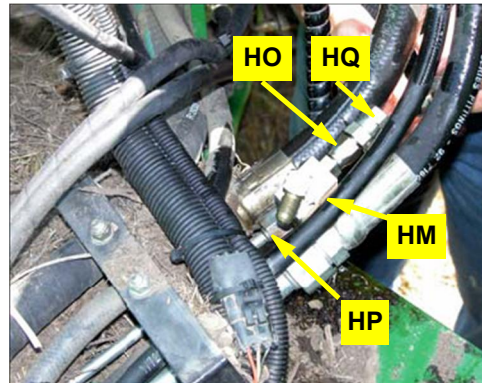

Figure 7b: Load sense shuttle valve location - rubber hose not yet connected.
- b. Locate the tractor load sense line towards the front of the rear section. Disconnect the line at the junction of the steel line and the rubber hose. Connect the steel line to shuttle valve adapter **HP** and the rubber hose to adapter **HQ** installed in shuttle valve adapter **HO** (Figure 7b). Do not allow grease and dirt to enter the fittings.